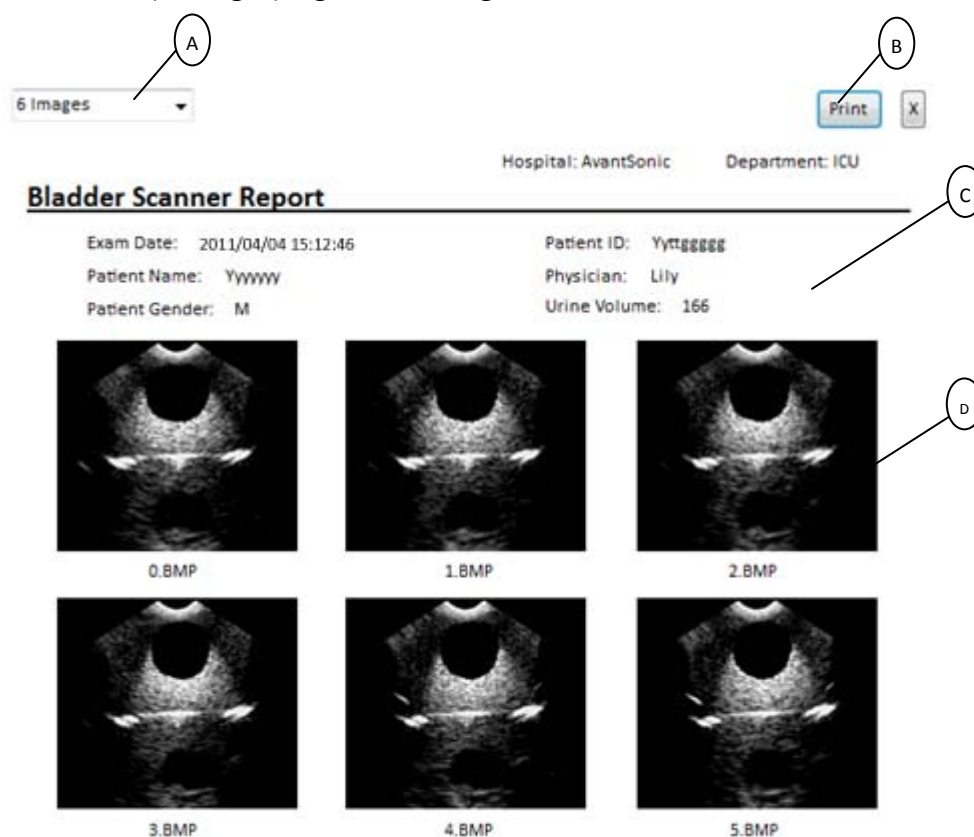
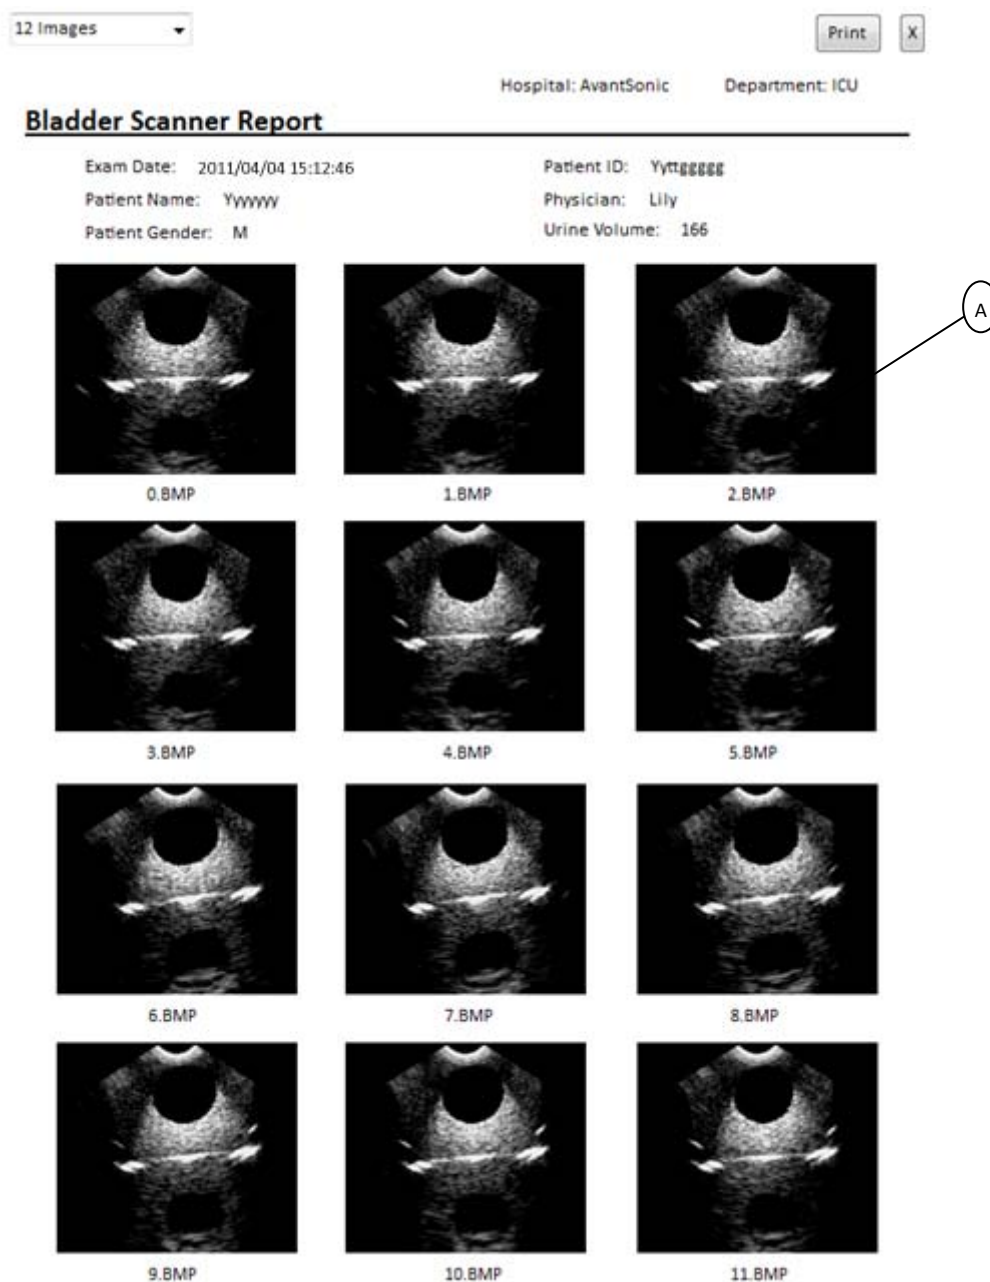

Figure 6-3 Print Interface of the PC of PadScan DS3 (6 images)
Figure 6-4 Print Interface of PC of PadScan DS3 (12 images)
ultrasound images will display in the print interface (Figure 6-3). Click Print key (6 or 12 images selection box, print key and X key will not be printed); Select 12 Images and 12 bladder ultrasound images will display in the print interface (Figure 6-4). Click Print key (same as above). The names of hospital and department are inputted and saved in Option interface while patient information and bladder ultrasound images are displayed in the main interface of PC. The patient information could be reviewed in Patient Manager /Printinfo.ini